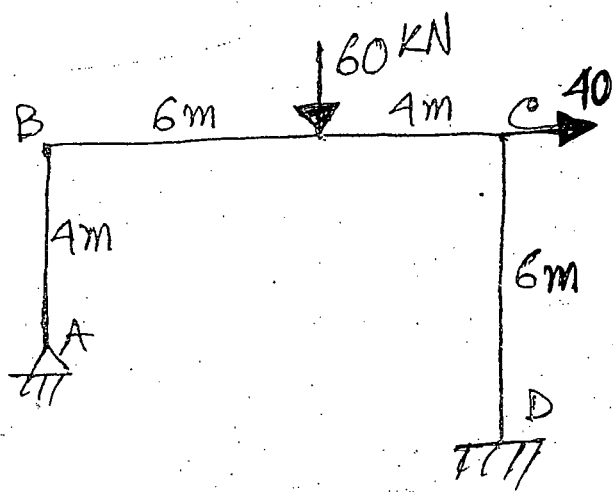

Fig. 12
- (b) Analyze the frame in Fig. 12 by the consistent deformation method and draw the bending moment diagram (EI is constant). (27)